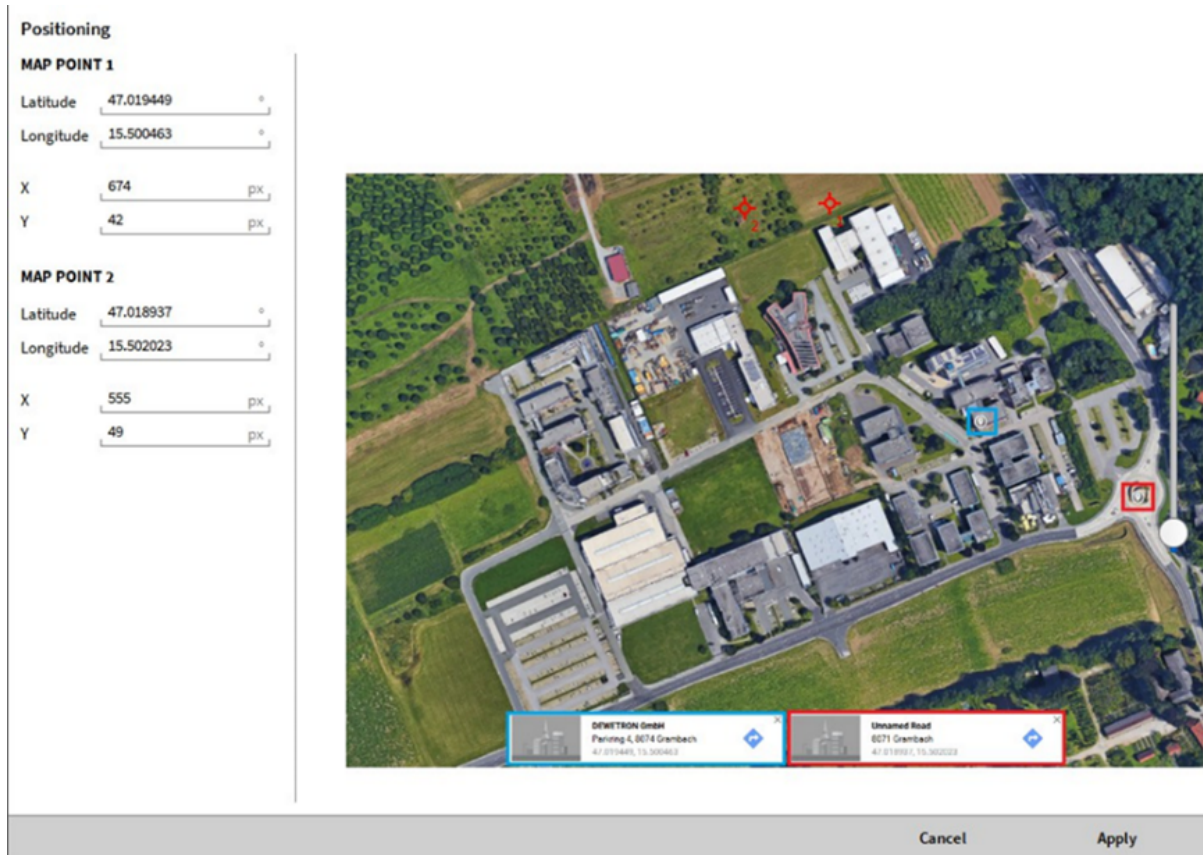

Fig. 8.92: Image positioning dialog
Two GPS coordinates within the loaded image must be known to position the image correctly. In Fig. 8.92, the two points and their corresponding coordinates are marked with red and blue. The procedure to position the image is the following:
- Two red cursors are generated by the Positioning dialog. In Fig. 8.92, they can be found at the top of the image. These cursors must be put on the known coordinates.
- *Latitude* and *Longitude* of *MAP POINT 1* must be entered for the known coordinates the first red cursor is placed on. In Fig. 8.92, this is the GPS coordinate marked with blue
- *Latitude* and *Longitude* of *MAP POINT 2* must be entered for the known coordinates the second red cursor is placed on. In Fig. 8.92, this is the GPS coordinate marked with red